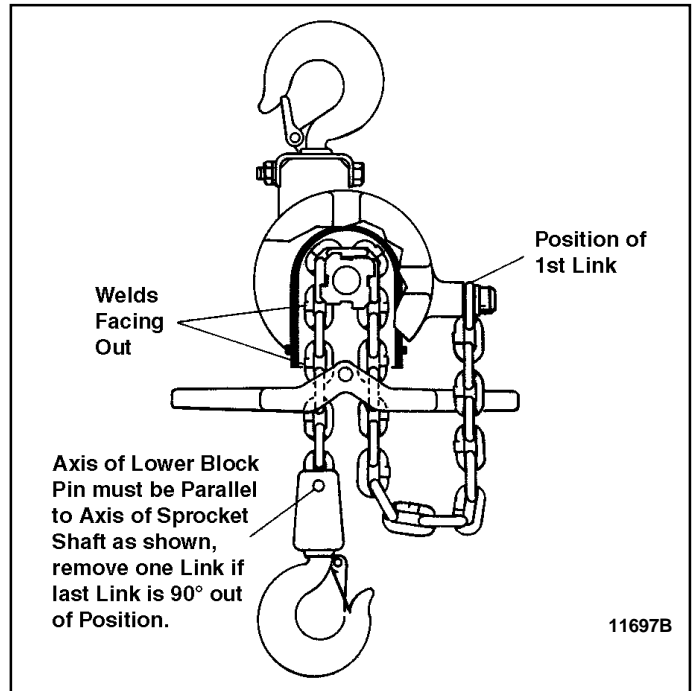
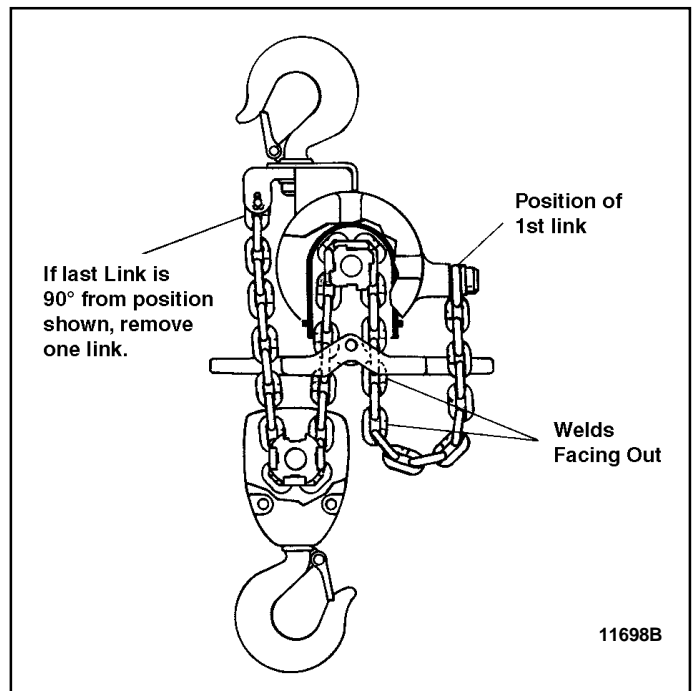

Figure 7-16. Installing Single Reeved Load Chain (1/4, 3/8 and 1/2 ton models).
Figure 7-17. Installing Double Reeved Load Chain (3/4 and 1 ton models).
(1) To install roller type load chain, first temporarily install connecting link on tail end of load chain. Then, with the air off, brake cover removed, and brake shoes locked in "open" position (with wedge between control lever and hoist body), turn brake wheel in "hoist" direction and feed chain in through lever control into chain sprocket. Once chain is over sprocket, brake cover can be replaced, hoist connected to air, and the chain run through hoist under power until sufficient chain has been run through to allow tail end to be attached to boss on side of frame with chain anchor. On single reeved hoist, attach lower block to load end of chain. On double reeved hoist, run lower block assembly onto chain and attach load end of chain to lug suspension bracket.
(2) When installing coil chain on the hoist, make sure the weld on the second link faces "out" or away from the sprocket. (See Figures 7-16 and 7-17). Now, with the air off, brake cover removed, and brake shoes locked in "open" position (with wedge between control lever and hoist body), turn brake wheel in "hoist" direction and feed chain in through lever control into chain sprocket. Continue to feed the chain through until approximately 15" to 16" hangs through the tail chain side of
the hoist. Take the first link and swing it up (do not twist) (see Figure 7-16) to the frame boss and fasten in place. The rest of the chain can be pulled through, and then the lower block fastened in place (on single reeved hoist). On double reeved hoist, allow approximately 17" to 18" of chain to hang on the lifting direction side (Figure 7-17). Run the lower block assembly onto chain and swing (do not twist) the remainder of the chain up and attach to lug on suspension bracket. Remove wedge from between lever and frame and replace covers.
Note: Chain must not be twisted and link welds must be positioned as shown in Figure 7-17.